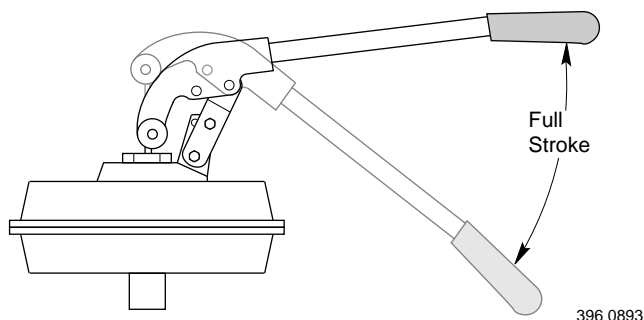

FIGURE 5A – Start of priming cycle, pumping air only
3. Work handle of Han-Dee primer up and down. Refer to performance chart at the top of page 2 to determine the approximate number of strokes required for your installation. To maximize primer performance, work handle at the start and finish of priming cycle as shown in figures 5A and 5B.